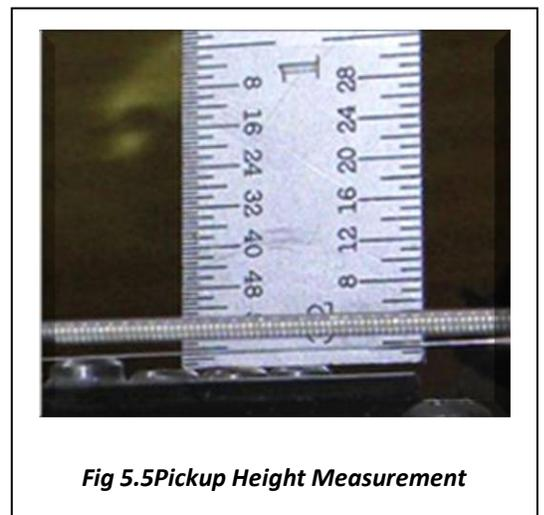

Fig 5.5 Pickup Height Measurement
5.5 Pickup Height (Figure 5.5)